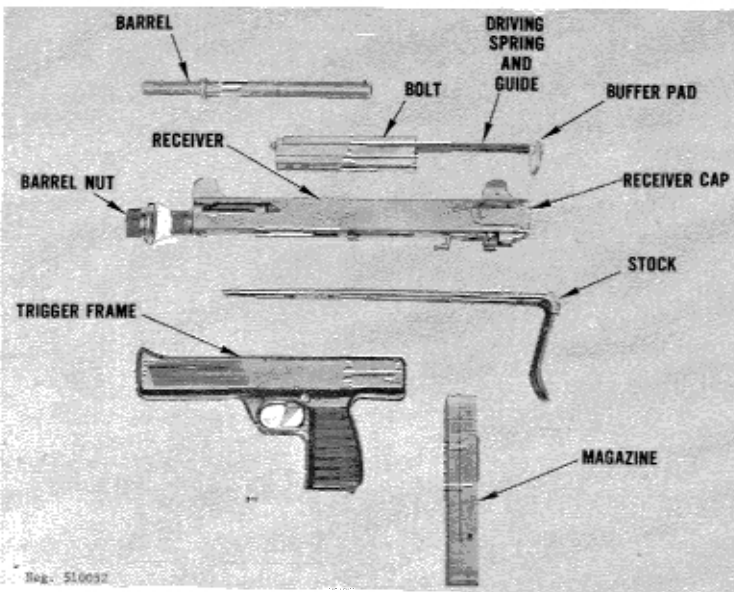

Figure 53. MPi Steyr 69 disassembled.
b. Press in the rounded end of the driving spring guide where it protrudes through the receiver cap (fig 52). Swing the receiver cap upward to open the rear of the receiver. Grasp the sides of the buffer pad (fig 53) and withdraw the bolt, buffer, and driving-spring unit.
e. Remove the trigger frame assembly (fig 53) by gently tapping it forward on the receiver until the rear of the trigger frame can be pulled away from the receiver and separated. **DO NOT USE EXCESSIVE FORCE.** The trigger frame fits tightly on the receiver, but it can be removed with minimum force.
g. Insert the bolt unit into the receiver, driving spring to the left top. Point the muzzle down and press the trigger; the bolt will slide home. Press in the driving spring guide head (fig 53) and swing the receiver cap over the opening at the rear of the receiver. Insure that the driving spring guide head seats in the hole in the receiver cap.